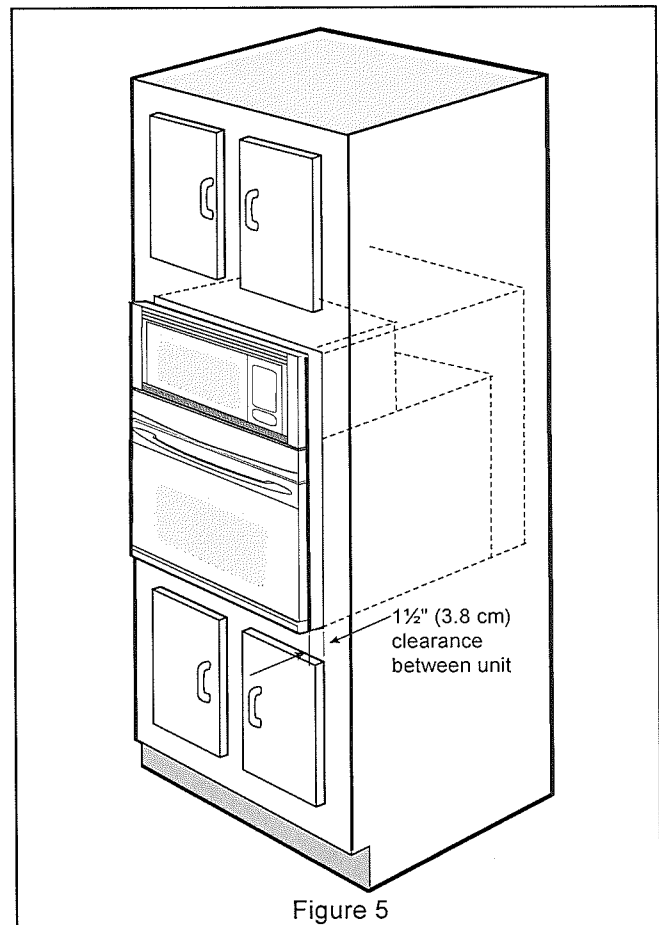

Figure 5
3. Insert the oven into the cabinet opening. Slide oven inward leaving 1½" (3.8 cm) clearance between the oven and front of cabinet (see Figure 5).